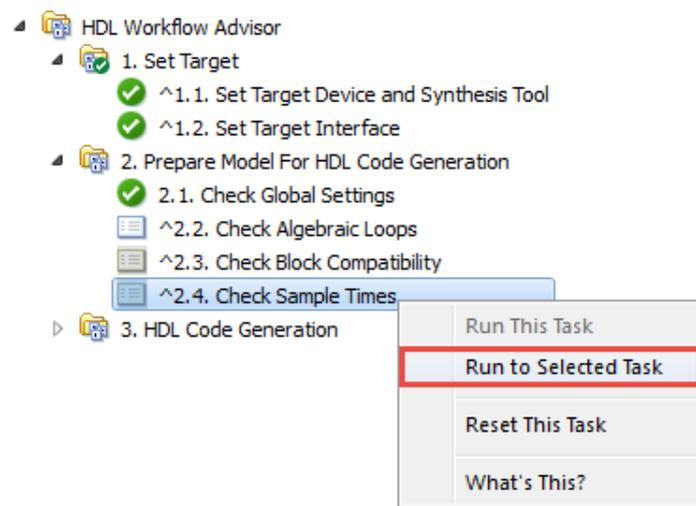

Figure 4.30: HDL Workflow Advisor Run to Selected Task
- (p) Right-click on *Check Sample Times* in the left hand pane, and select **Run to Selected Task** as shown in Figure 4.30.